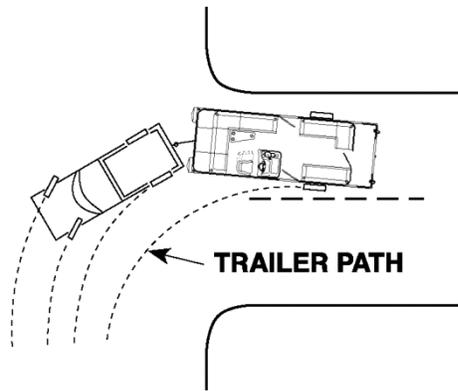

FIGURE 4-2 TURNING WITH TRAILER
9. Be aware that a turn for the trailer will be wider than a turn for the tow vehicle (Figure 4-2). When making a turn, be careful that your trailer does not strike another vehicle or object.